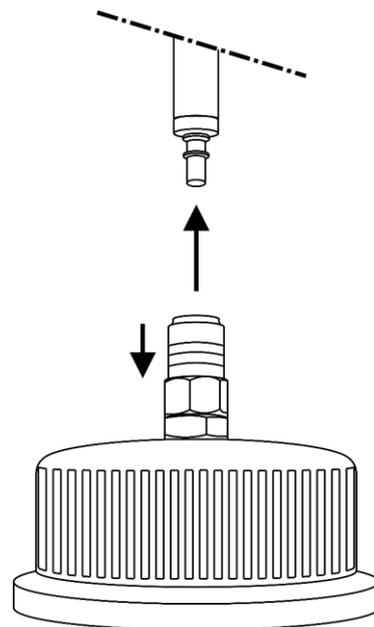

Fig. 07
- 05) To uninstall the tank hose, pull on the quick lock located on the snow liquid tank cap and remove the tank hose. See Fig. 07.